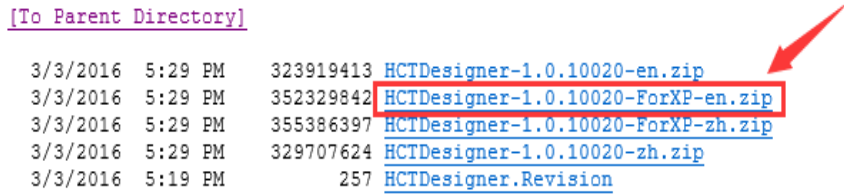

Fig. 6
The software “HCTDesigner” can be downloaded from "<http://hechuanplc.com/>" or "<http://oem.gongkongfan.net/102/studio/packages/>". There are different versions according to the different operating systems (OS), as shown in Fig. 6.